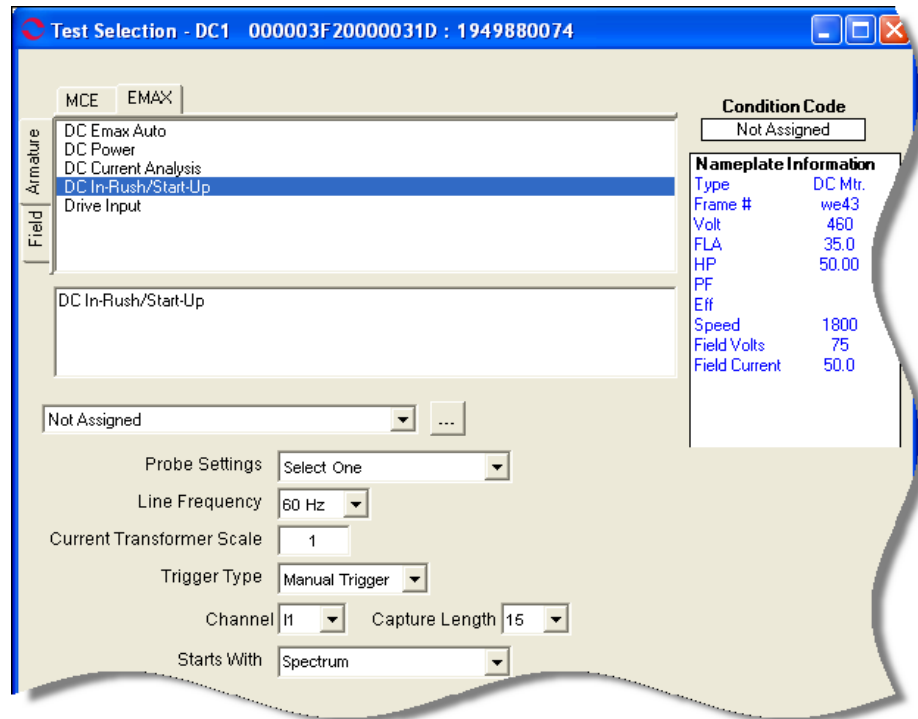

Figure 6-38: DC In-Rush/Start-Up Test Selection Window
4. Select the Test Selection icon  on the toolbar. The Test Selection window, shown in Figure 6-38 opens.